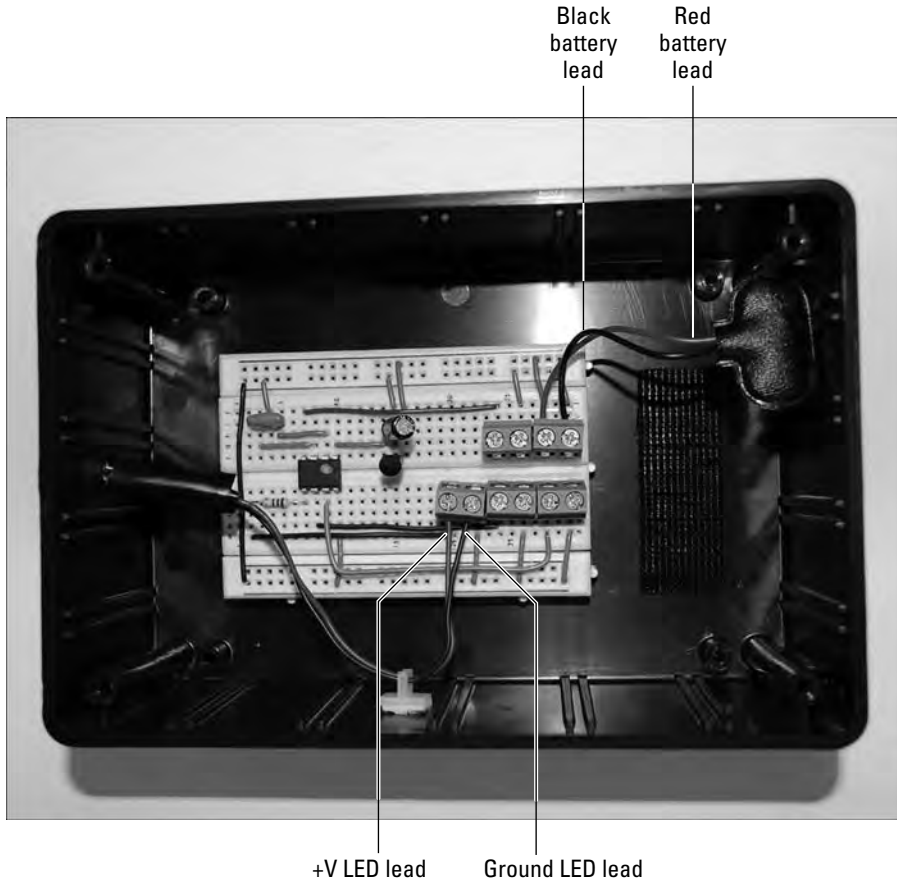

Figure 11-19:
14. Attach the wires from the battery pack snap connector and the LED to the terminal blocks, as shown in Figure 11-19.